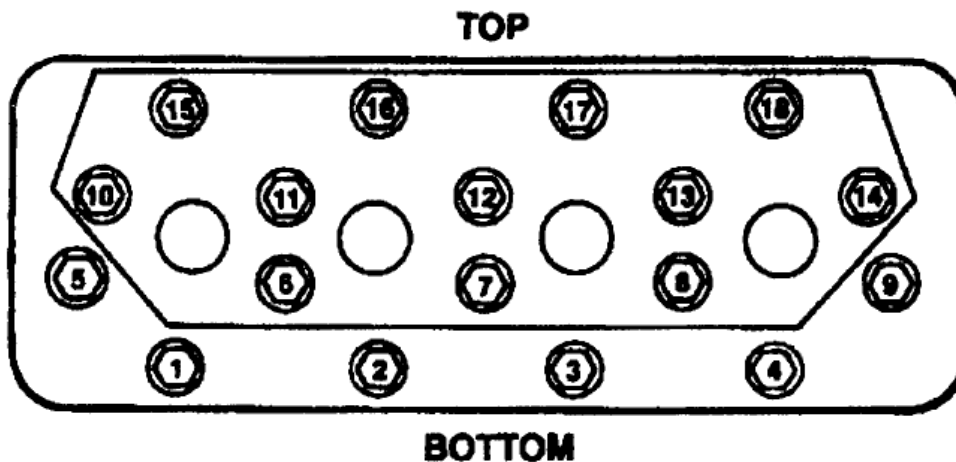

Figure 2 - Second Torque Sequence Guide
5. Torque all studs to **125 ft-lb** in the proper sequence that is shown in *Figure 2*. **If using engine oil instead of moly lube, the final torque must be 160 ft-lb.**
4. After all studs have been torqued to **90 ft-lb**, Torque them to 125 ft-lb in the proper sequence shown in *Figure 2*. **If using engine oil instead of moly lube, the final torque must be 160 ft-lb.**